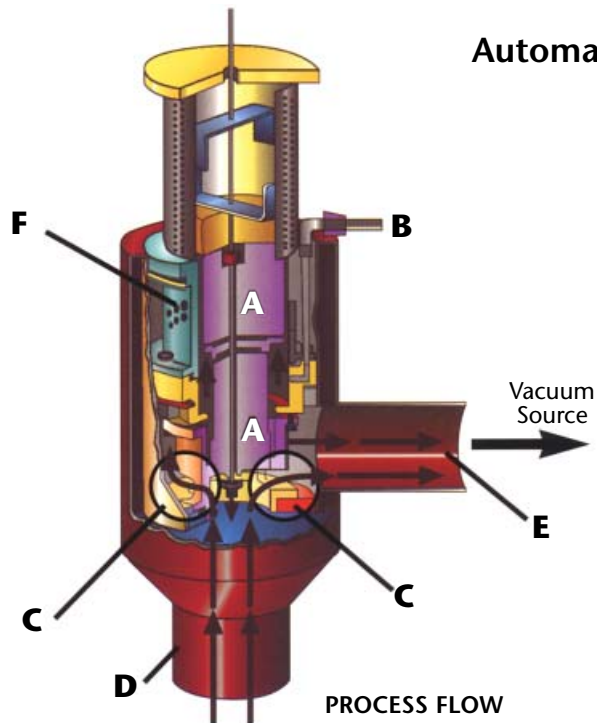

Fig. 2: How the V1000 reaches a setpoint
Figs. 2 and 3 describe how the V1000 works. Fig. 2 shows the two back-to-back piston assemblies (A) with different size pistons and rolling diaphragms. When the regulated air pilot for the vacuum setpoint (B) is introduced between the two diaphragms, the force imbalance causes the piston assembly to float upward, uncovering (C) in the lower sleeve. These slots let air flow from the regulated vacuum chamber (D) to the high vacuum header (E). When the regulated vacuum chamber reaches setpoint vacuum, the piston assembly is in a force balance equilibrium.